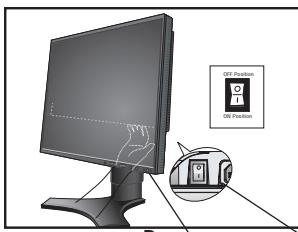

Figure 9 Power Button Vacation Switch
8. The vacation switch on the back side of the monitor near the AC inlet must be in the ON position for the monitor to function (Figure 9). Turn on the monitor using the front power button, then turn on the computer.